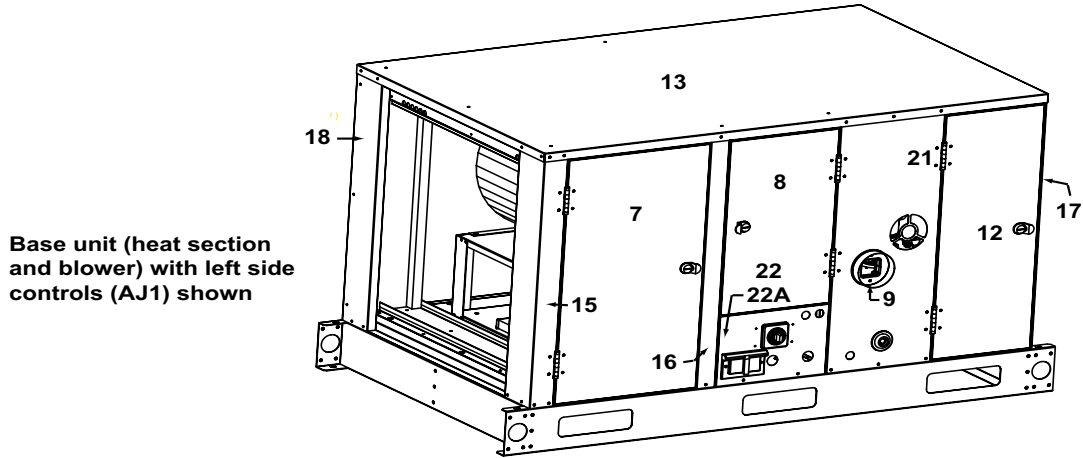

Figure 41. Cabinet Components—Outdoor Models PDH and PXH (Refer to Table 61)
- Cabinet components for indoor models PDH and PXH are shown in Figure 41 and listed in Table 61.